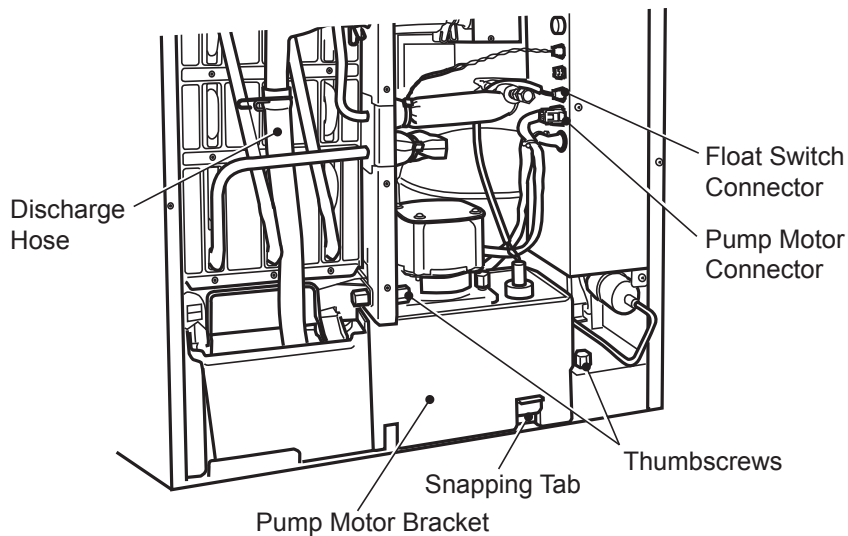

Fig. 3
- 2) Loosen the two thumbscrews securing the pump motor bracket. See Fig. 3.
Be sure to let the Discharge Hose pass behind the copper tube and connect it securely in position. See Fig. 3. Otherwise, the Discharge Hose may be caught in the Front Insulation, leading to improper results.